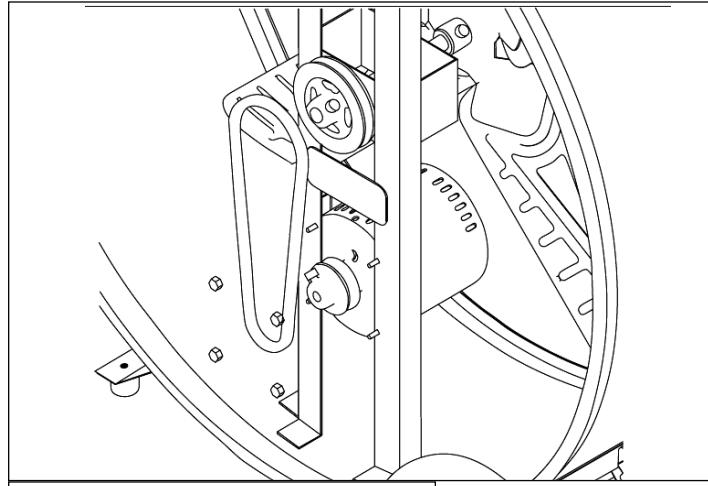

Figure 3: Adjusting Fan Belt
3. Remove belt to replace, or adjust motor to tighten belt (figure 3).